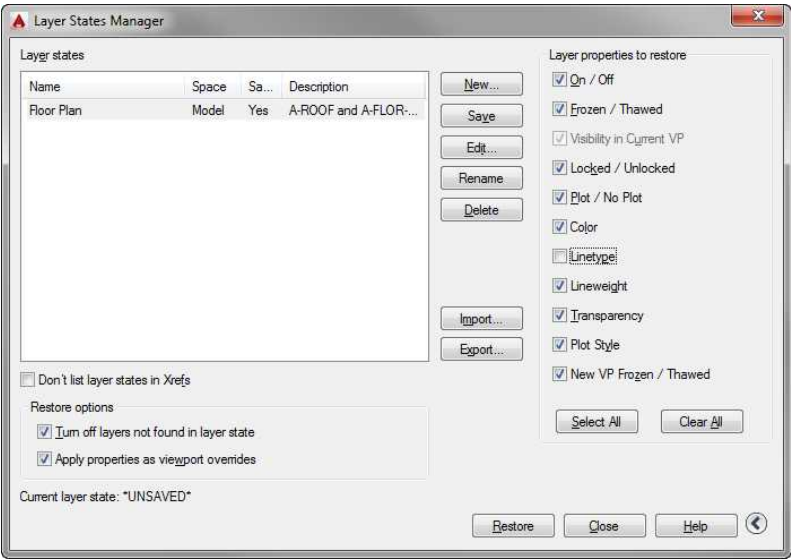

FIGURE 6.59: The Layer States Manager dialog box with the restore options selected
12. Uncheck the Color, Linetype, and Lineweight options (see Figure 6.59), and then click the Restore button.